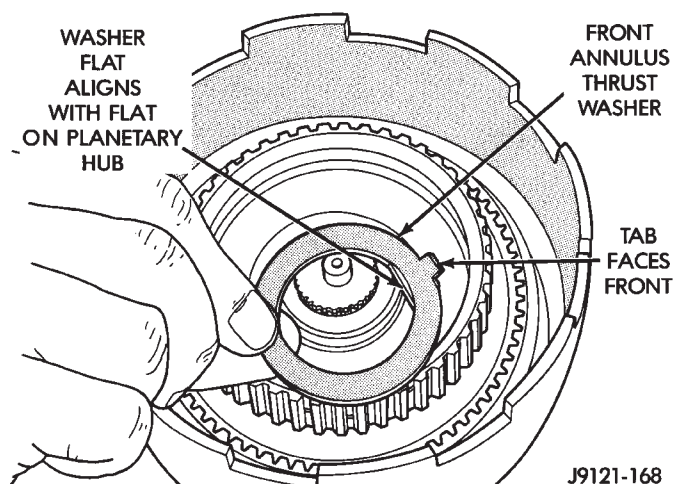

Fig. 178 Installing Front Annulus Thrust Washer
(19) Install thrust washer in front annulus (Fig. 178). **Align flat on washer with flat on planetary hub. Also be sure washer tab is facing up.**